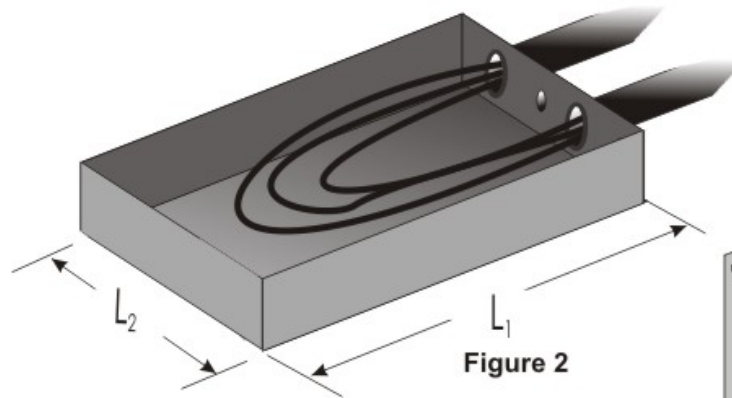

Figure 2
- What's Figure 2's pull box 's L1 dimension if its conduits are 63mm? $63 \times 6 + 63 = 441$ mm
- Figure 2's pull box conduits are 63 mm. What's its L2 minimum dimension? $63 \times 6 + 63 + 63 + 12.5 \times 2 = 529$ mm
- Figure 2's both conduit are 63 mm. What's the minimum distance between the 2 circuits? $63 \times 6 = 378$ mm
- Figure 2's pull box's both conduits are 63mm. What's the minimum dimension of L2? $L_1 + d_1 + d_2 + 2c = 63 \times 6 + 63 + 63 + 12.5 \times 2 = 529$ mm
- Figure 2's pull box has both conduits at 63 mm. What's the minimum dimension L1? $63 \times 6 + 63 = 441$ mm